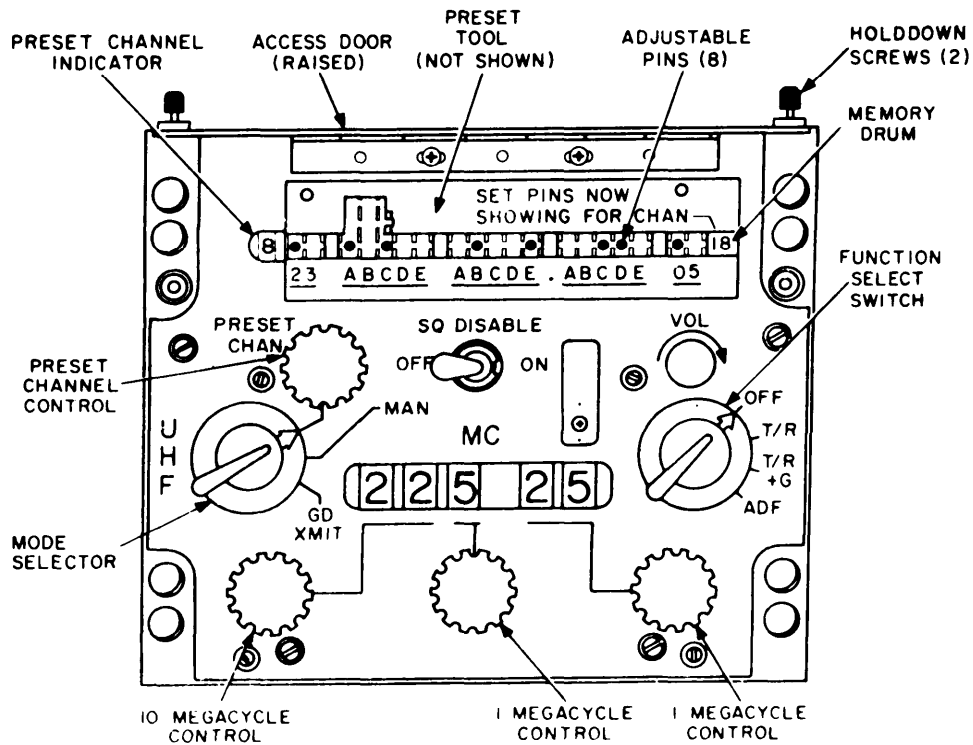

Figure 2-2. Radio Set Control C-6287/ARC-51BX, front panel controls.
c. Turn the mode selector switch to MAN (C-6287/ARC-51BX only, fig. 2-2).
(9) Depress the microphone push-to-talk switch to transmit. Speak into the microphone and listen for a sidetone in the headset.
b. *Preset operation (C-6287/ARC-51BX only)* (fig. 2-2).
(1) Turn the mode selector switch to PRESET CHAN.
(2) Turn the preset channel control to the desired channel, as indicated on the preset channel indicator.
(3) The transmit-receive operation is the same as described in a(6), (8), and (9) above.